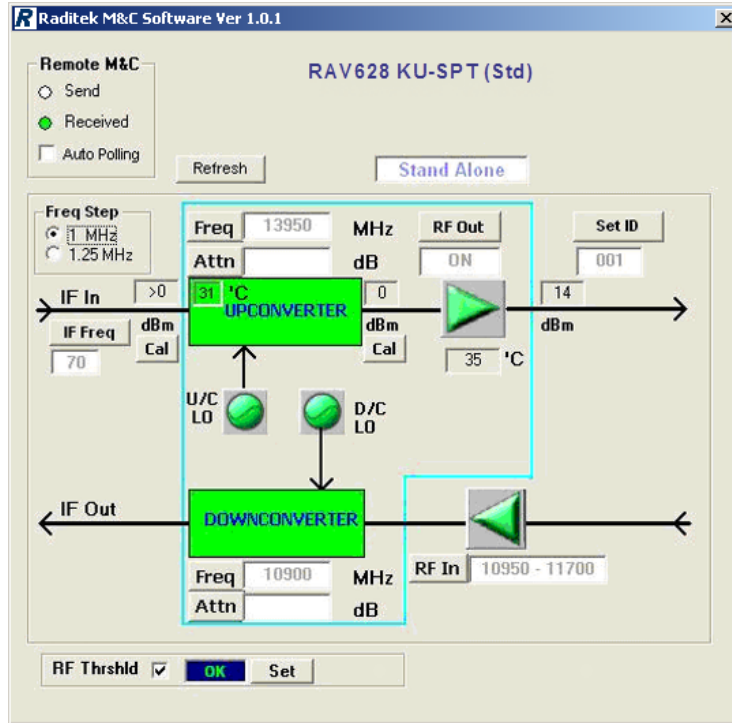

Figure 2-29: Main Display for Booster with M&C driven by Ku-SPT
- Figure 2-29 shows Booster with M&C driven by third party up converter (Driver Model set to None).